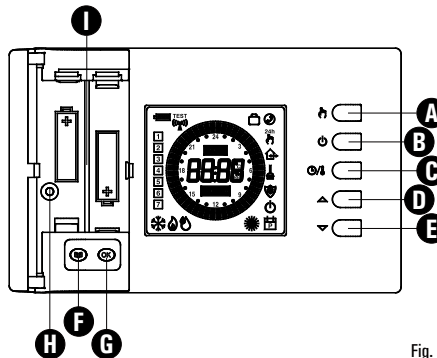

Fig. 7
- 6 Insert the batteries in the battery compartment (I in Fig. 7); see paragraph 'HOW TO INSERT/REPLACE THE BATTERIES'.